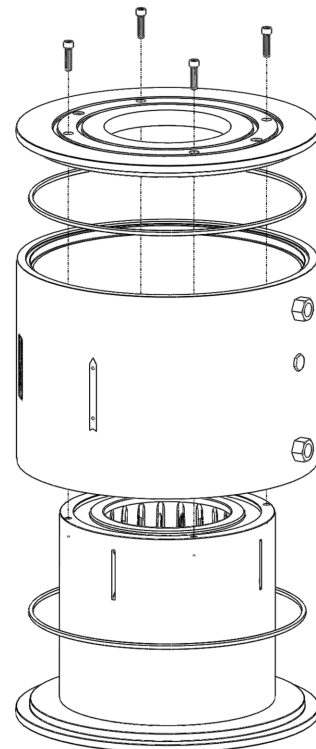

Figure 18 - Reassemble body components.
- Replace the body sleeve O-rings, body sleeve, outlet cover plate, and outlet cover plate cap screws as shown in Figure 18 below. O-rings should be evenly covered with a light coat of O-ring lubricant prior to installation. Verify that the thru holes in the cover plate are properly aligned with the threaded holes in the liner before installing the cap screws.